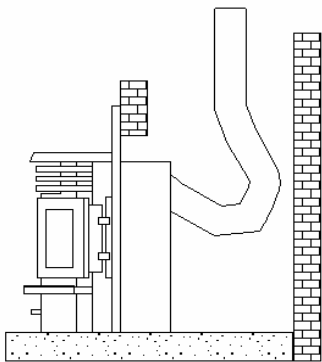

Figure: 4 – Diagram showing proper and improper installations.
5. Locate the flex pipes inside the chimney and pull them towards the insert. Trim any excess pipe. **Downward looping of the exhaust and intake venting is not permitted. Please refer to Figure 4 for further details.**